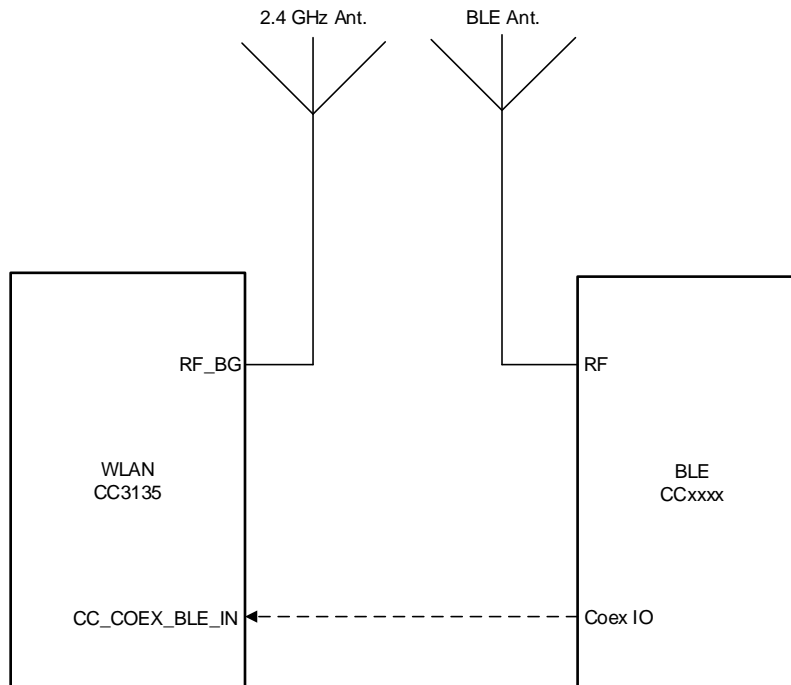

Figure 7-3. Dual-Antenna Coexistence Mode Block Diagram
- 2.4 GHz Wi-Fi Band (see Figure 7-3)
Figure 7-3 shows the dual antenna implementation of a complete Bluetooth® low energy and WLAN coexistence network with the WLAN operating on either a 2.4- or a 5 GHz band. Note in this implementation no Coex switch is required and only a single GPIO from the BLE device to the CC3135 device is required.